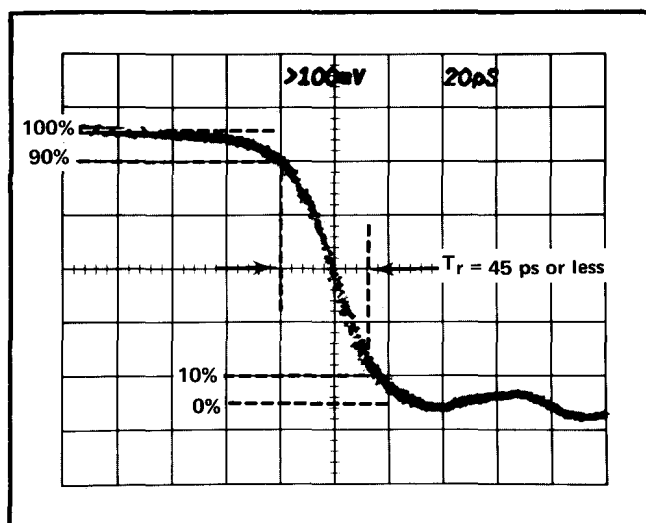

Fig. 5-8. Reflected pulse risetime of the S-6, S-52, and 7S12 system.
f. CHECK that the reflected pulse risetime from the 90% level to the 10% level is 45 ps or less. See Fig. 5-8 for this waveform.